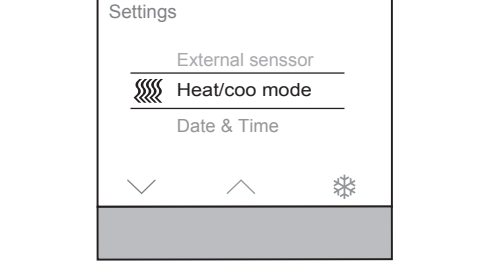

Figure 9: Heating or cooling mode selection
- The operating mode (figure 9) changes from heating to cooling .